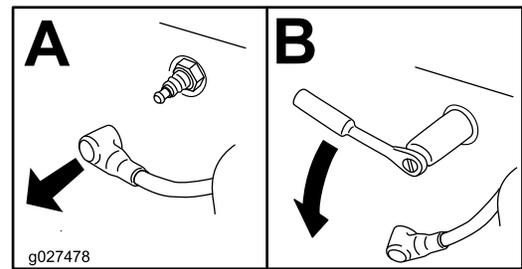

Figure 43
- Remove the spark plug (Figure 43).